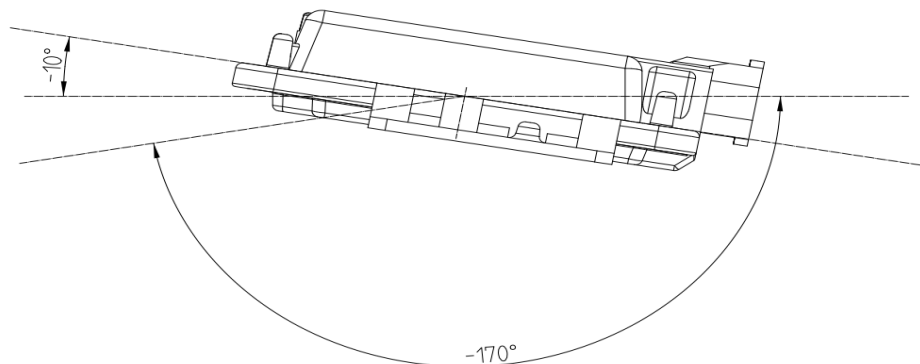

Figure 10 Horizontal Installation Angle
7. VCU should be installed in the horizontal and vertical position according to the connector downwards and maintain a certain angle to prevent water from entering the connector. In the horizontal direction, the recommended installation angle is -170° to -10° , as shown in Figure 10 below. In the vertical direction, the recommended installation angle is -170° ~ -10° , as shown in Figure 10 below.